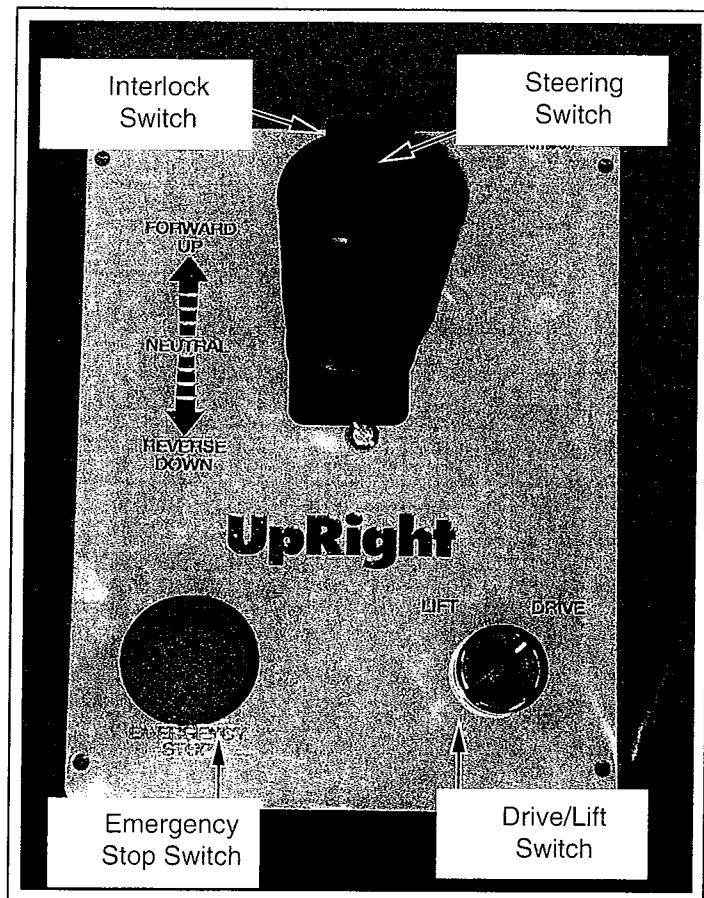

Figure 2-6: Optional Proportional Controller
20. OPTIONAL PROPORTIONAL CONTROLLER (Figure 2-6)
8. OPTIONAL PROPORTIONAL CONTROLLER (Figure 2-6)
3. PROPORTIONAL CONTROLLER MODELS (Figure 2-6)